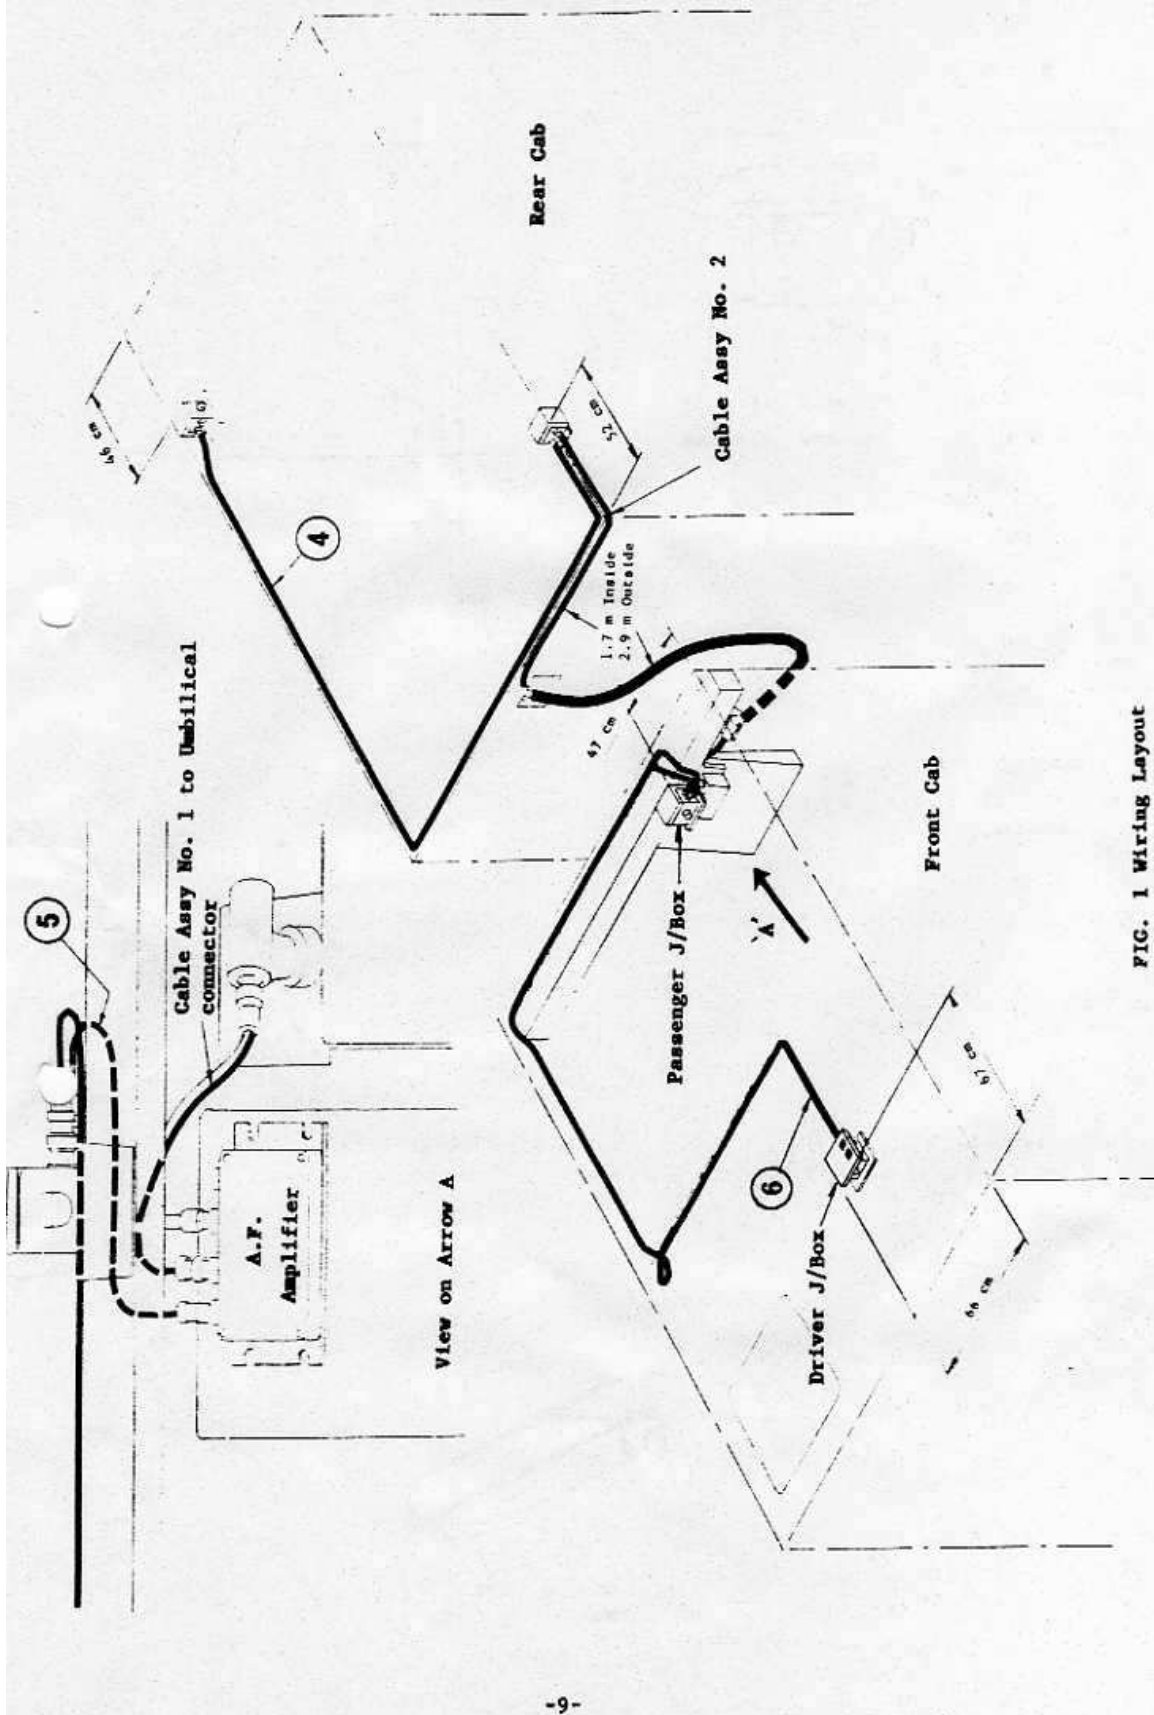

FIG. 1 Wiring Layout
10.3. Numbers in brackets in this text refer to item numbers in Table at para 9 and Figure 1.
10.5. Modification details to the vehicle are given in Figs.1 to 6.
10.6.1. Referring to Fig. 1 and 2, mark the roof position for the Mounting Plate and screw holes.
10.7.1. Referring to Fig. 1 and 3, mark hole positions for the Mounting Plate (7) on frame, ensuring bottom of bracket is flush with bottom of frame.
10.7.3. Place Cable No.5 (6) into well of frame where holes have been drilled such that the seven pin connector is to the right of the vehicle (starboard). Refer to Fig. 1, view on Arrow 'A'.
10.8.1. Referring to Fig.1 position the AF Amplifier onto the sloping rear panel, with its connectors uppermost, and locate over the four tapped fixing holes.
10.10.2. Connect Power Cable (3) to AF Amplifier 'BATTERY' connector and, referring to Fig. 1, route as follows:-
10.12.4. Remove greased paper backing from adhesive pad on cradle and referring to Fig. 1 position 150-200mm apart along well, above the right (starboard) passenger hatch, such that the ty-rap is vertical and its anchor to the bottom as in Fig. 4.
10.12.7. Thread short ty-raps (18) between roof and cable loom running across roof 150-200mm apart, to point at right angles to driver's Junction Box, referring to Fig. 1. Ensure ty-rap anchors are protruding towards the roof.
10.13.1. Interconnecting Cable No. 1 (NSN: 5995-99-751-5861) illustrated in Fig. 1. should be fitted in accordance with Installation Instruction No.
10.14.1. Referring to Fig.1 and 3 mark hole positions for the Mounting Plate (7) on frame.
10.15.1. Referring to Fig.1 and 3 carry out operations 10.14.1. to 10.14.4.
10.17.1. Interconnecting Cable No. 2 (NSN: 5995-99-751-5662) illustrated in Fig. 1 should be fitted in accordance with Installation Instruction No.
10.17.2. Plug the connector of Cable No. 2. onto the port Junction Box rear connection, referring to Fig. 1.
10.18.1. Referring to Fig. 1 plug one end of Cable No.3 onto the port Junction Box connector and the other end onto the Starboard Junction Box upper connector.